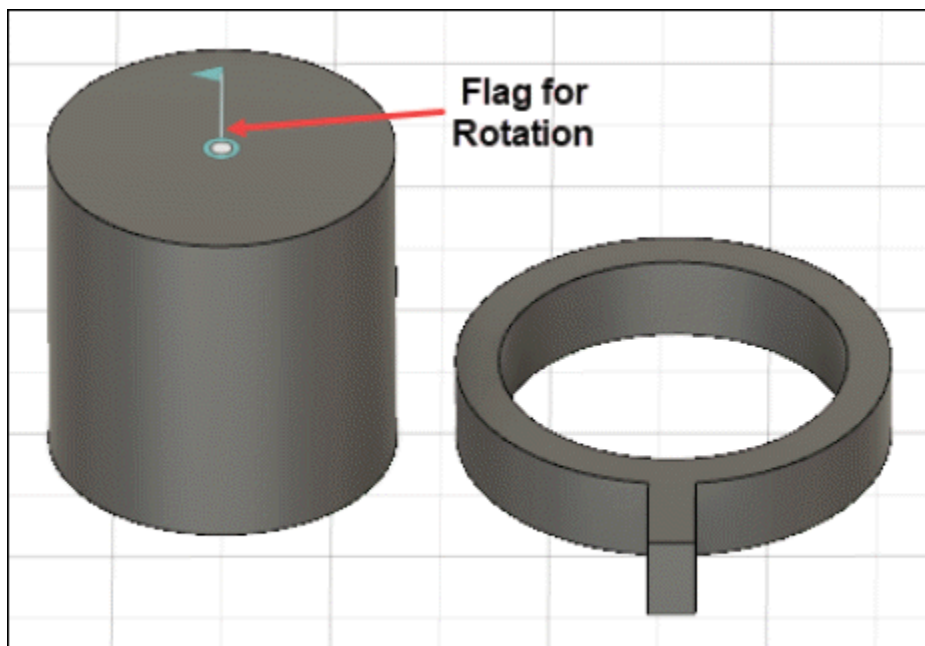

Figure-24. Flag for rotation
- If you want to rotate the component after creating joint then double-click on the flag displayed; refer to Figure-24.